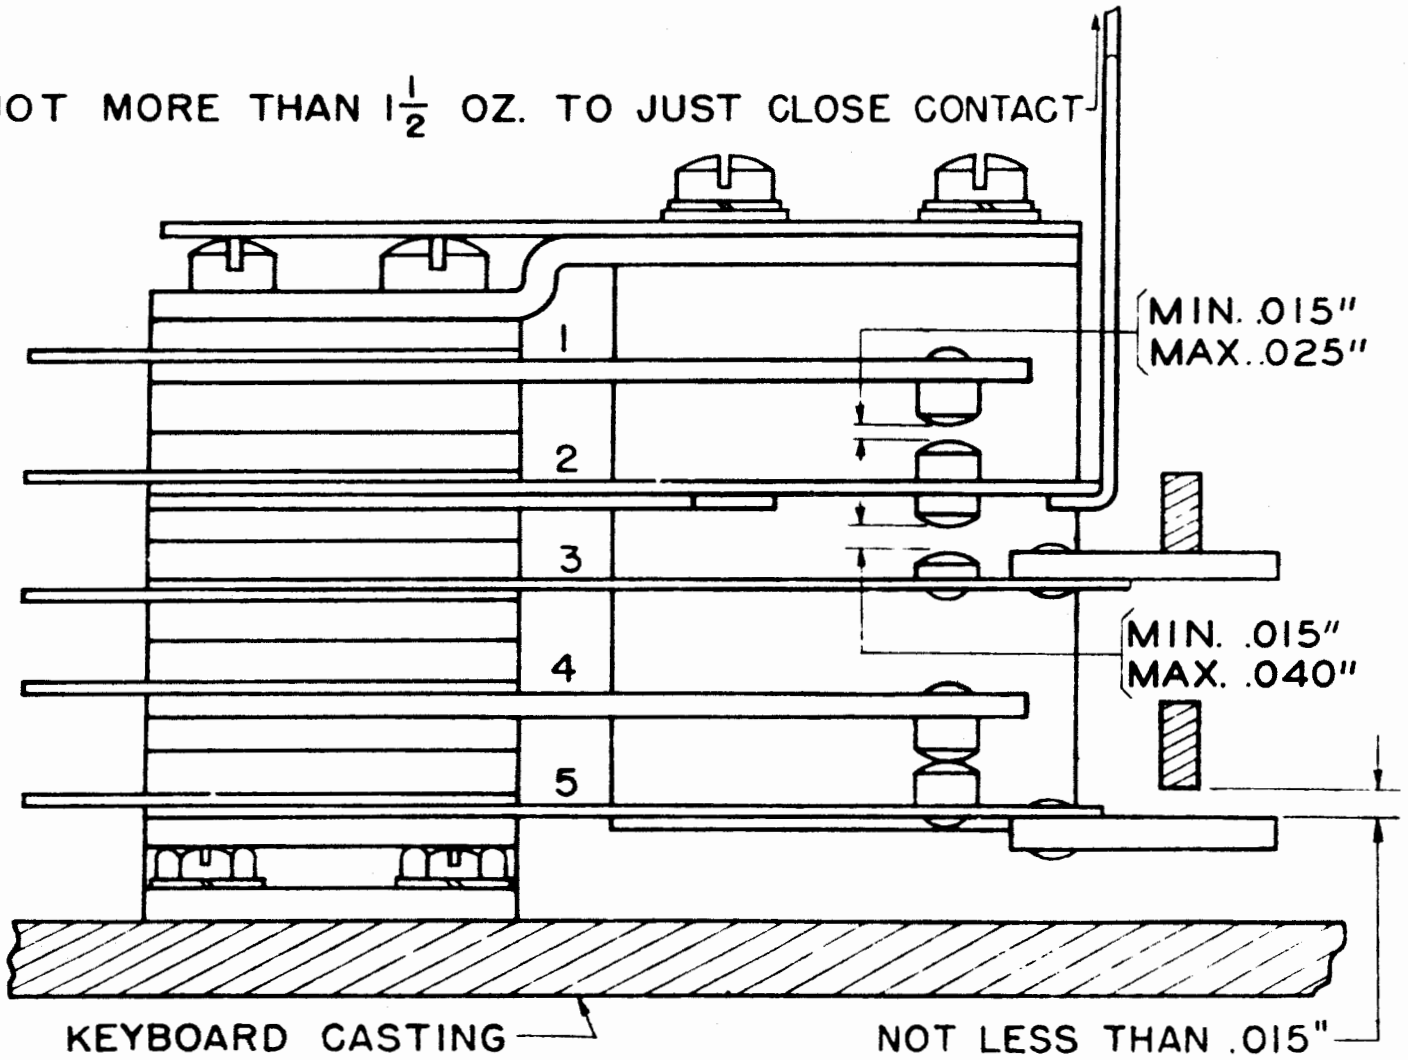

Figure 26
3.02 Keyboard-control Contact Springs should meet the following requirements when the keyboard-control operating lever is in the middle KBD & TAPE position. See Figure 26.